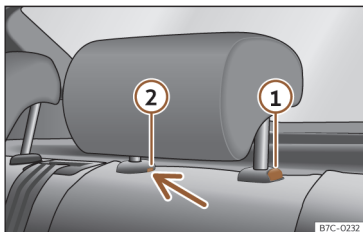

Fig. 73 Rear head restraint: removal.
- Press button >>> **Fig. 73 ①**, while simultaneously pressing on the safety hole ② with a flat screwdriver a maximum of 5 mm wide, and remove the headrest.